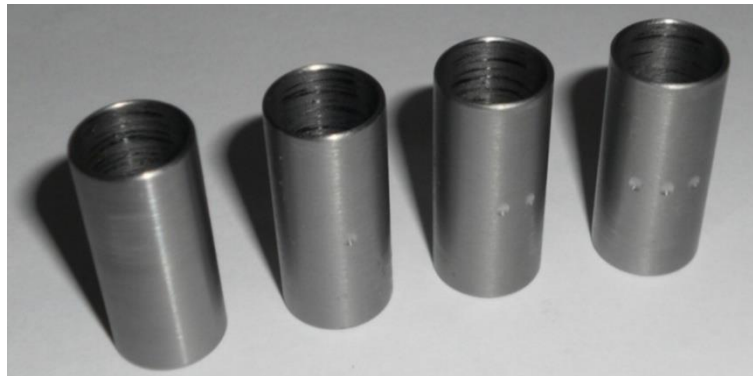

**Figure 126 – Crankcase Assembly Preparation**
- Lubricate and fit the O rings to the bottom main bearing stud holes (arrowed in Figure 126 - left) and then fit the front and rear crankcase studs using Loctite 263 Thread locker: clean and prime the threads first using Loctite 7471 cure accelerator. Use a collet type stud tool to screw the 2 short front crankcase studs to a free length of 52mm and the 2 long front and the 2 rear crankcase studs to a free length of 95mm as shown in Figure 126. Note: Later longer studs are positioned 54mm and 97mm free length above the crankcase join.